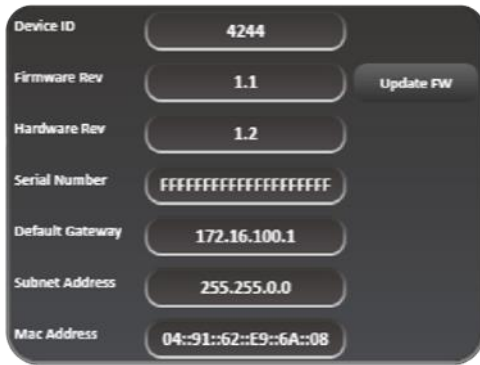

Figure 9: Device tab
- The device tab where all board details are displayed (Figure 9).